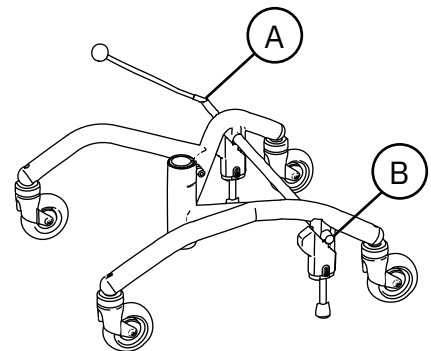

Figure 5.14. Brake lever.
The brake lever can be located on the right (A) or left (B) side of the base, see Figure 5.14.